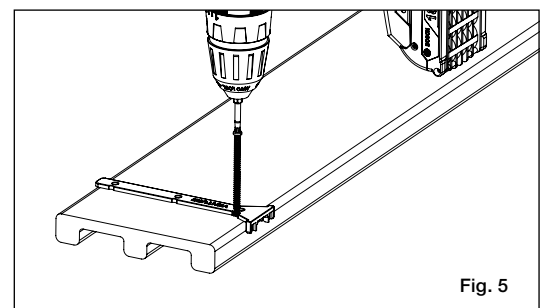

Fig. 5
A) For all deck board fastening, it is recommended that you use the locator tool to ensure accurate screw placements into the thickest lobed areas (fig. 5). You can either mark the location using the locator tool for predrilling or use the notches in the side of the tool to predrill the holes for the screws. For more information and instructions on how to use the locator tool please visit [www.Deckorators.com/locatortool.com](http://www.Deckorators.com/locatortool.com).